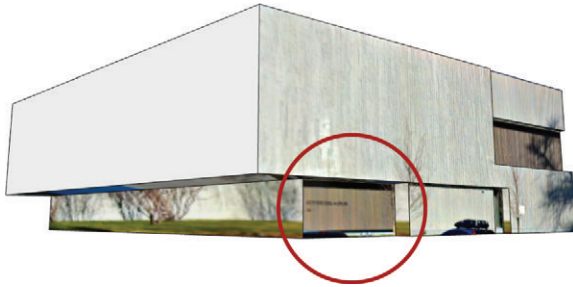

Figure 16.17 Zoom into the entry of the building for a strategic view.
1. Zoom in on the entry of the building (Figure 16.17).